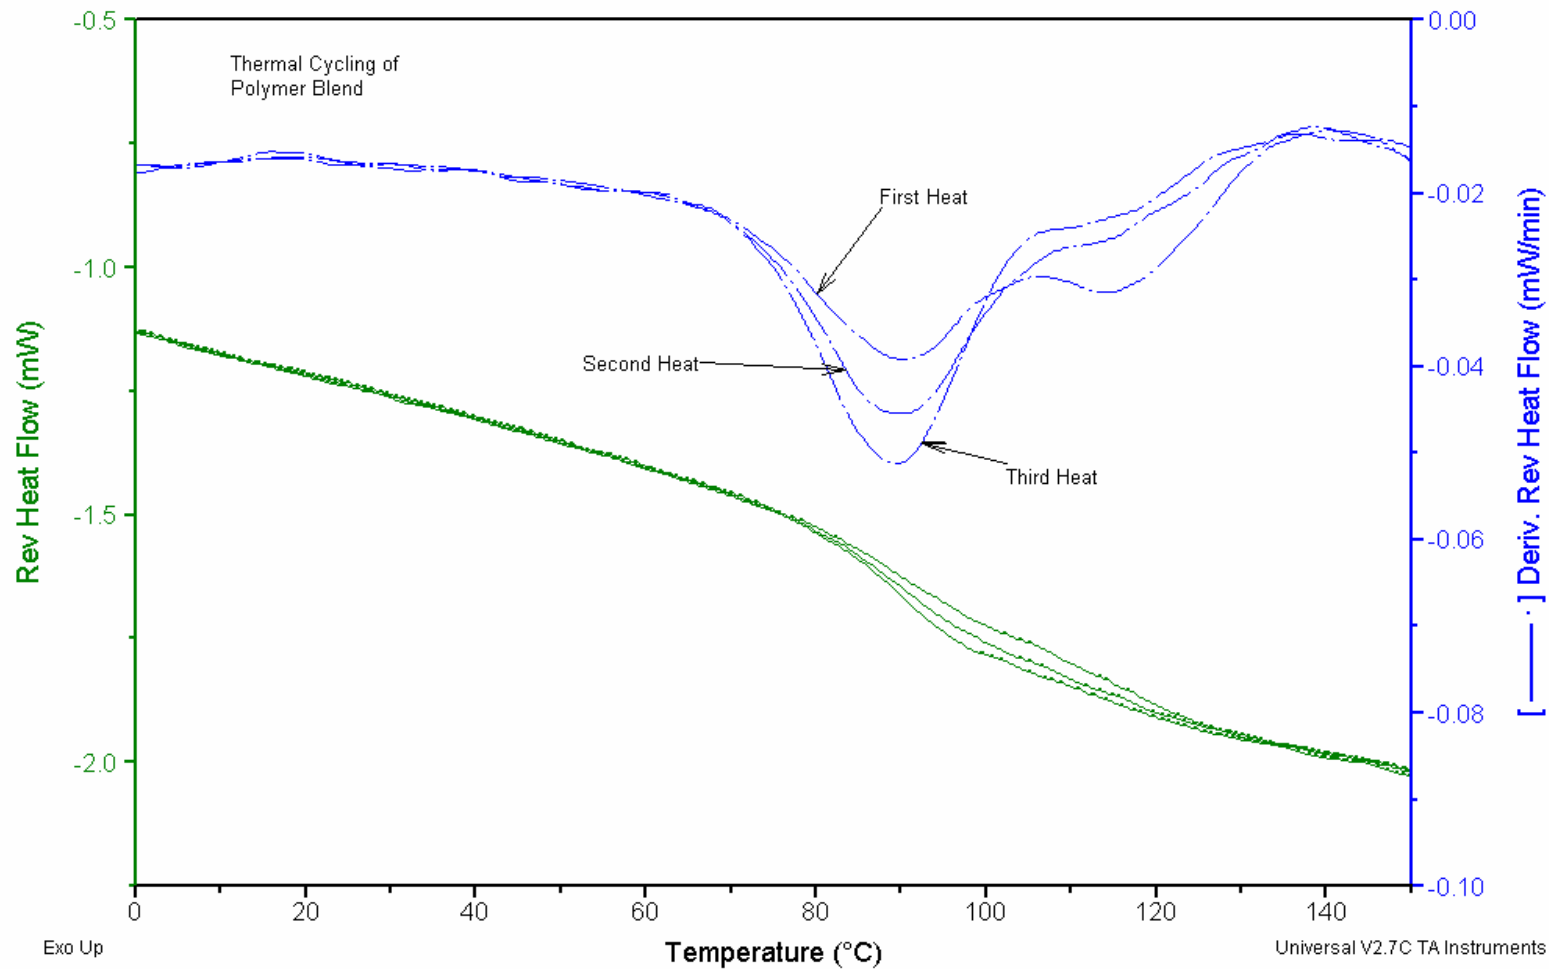

Figure 8
- MDSC solves this problem because it has two heating rates: the average heating rate can be slow to improve resolution, while the modulated heating rate can be high to improve sensitivity (Figure 8).